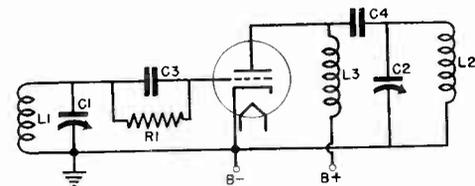

Fig. 2-89
*Ans.* This circuit is basically the same as the circuit asked for in Question 2-86 except for the shunt-fed plate. Fig. 2-89 indicates the circuit.